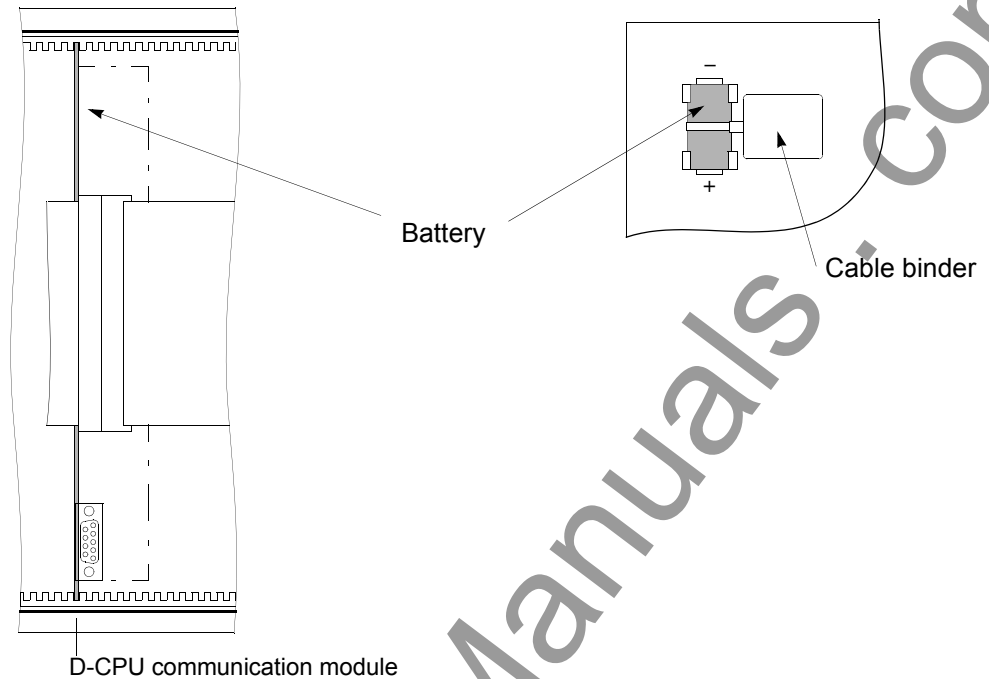

Figure 8-5 Front view after removing the front panel, and location of the buffer battery
- ☐ The battery is located on the top front of the D-CPU communication module (Figure 8-5, page 295).
- ❑ Press the new battery firmly into its snap-in holder (see Figure 8-5, page 295).